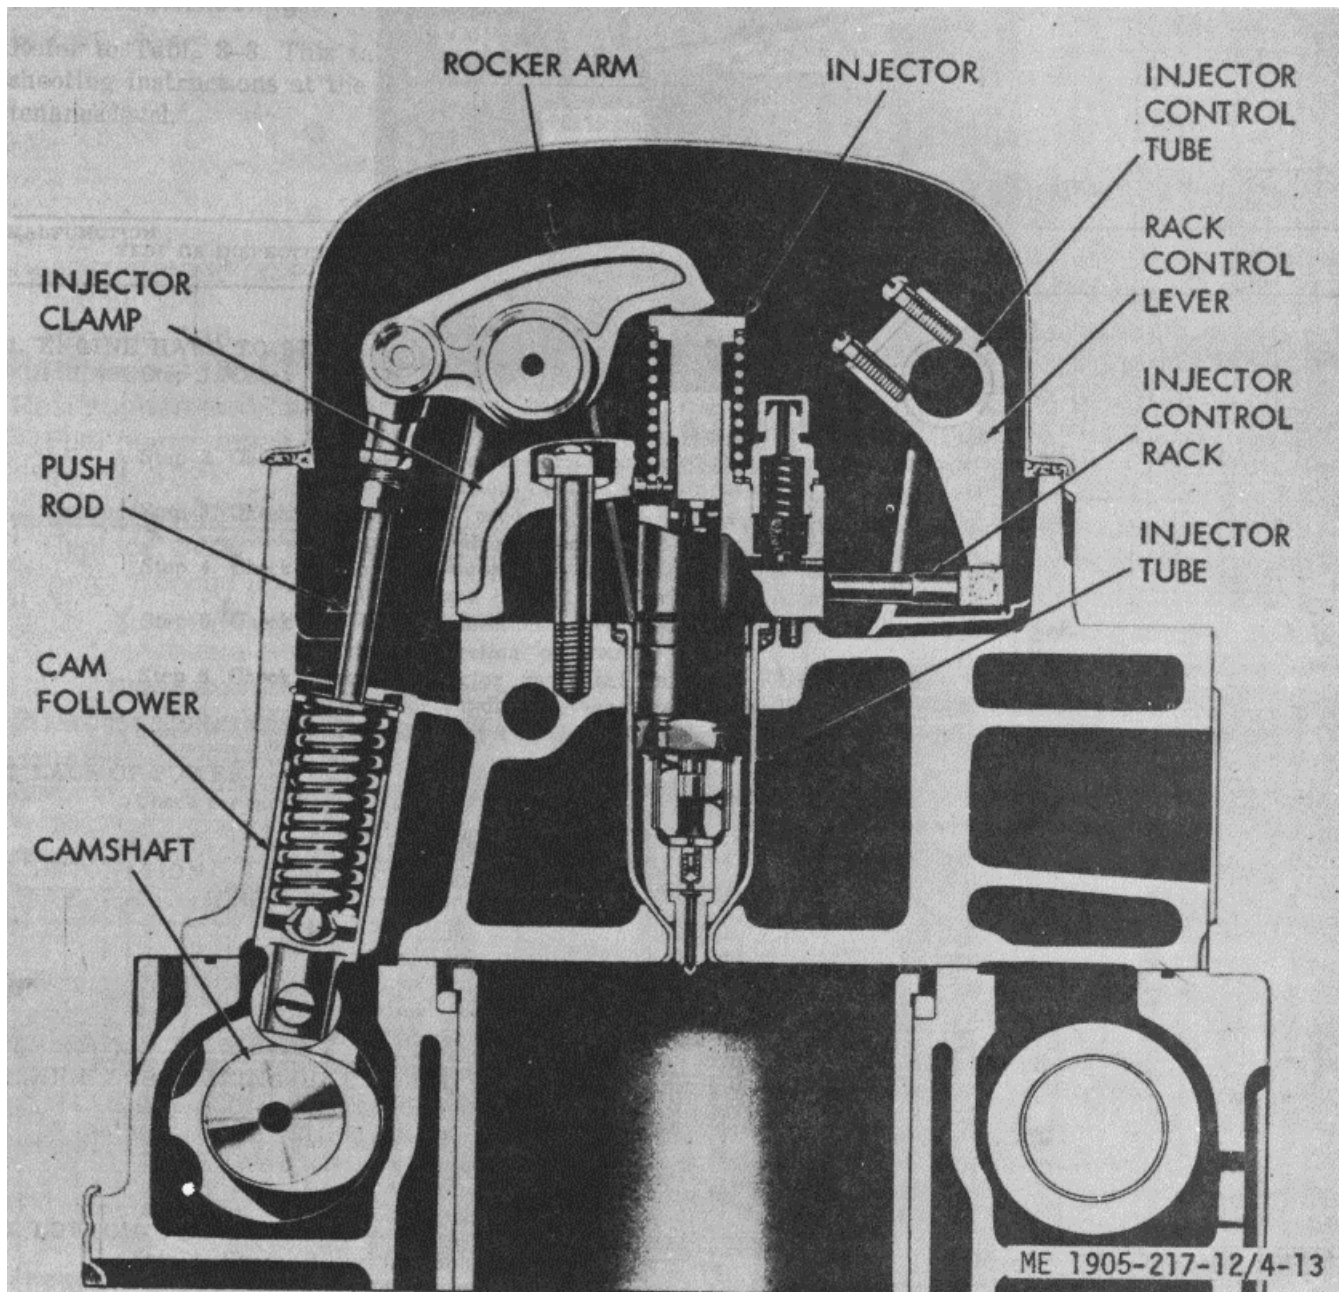

Figure 4-13. Fuel injector mounting.
(1) Refer to figure 4-13 and insert the injector into the injector tube with the dowel registering with the locating hole in the cylinder head.
(2) Slide the rack control lever over so that it registers with the injector rack.
(3) Place the injector clamp in place and install the special washer. Install the bolt and tighten it to 20-25 ft-lb torque. Make sure that the lamp does not interfere with the exhaust valve or injector springs.